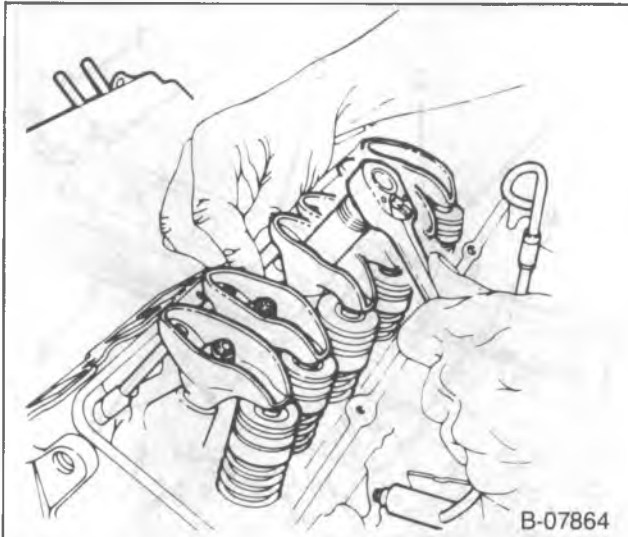

Figure 41—Adjusting the Valves
3. Back out the adjusting nut until lash is felt at the pushrod then turn in the adjusting nut until all lash is removed. This can be determined by rotating the pushrod while turning the adjusting nut (figure 41). When the play has been removed, turn the adjusting nut in one and one-half additional turns (to center the lifter plunger).